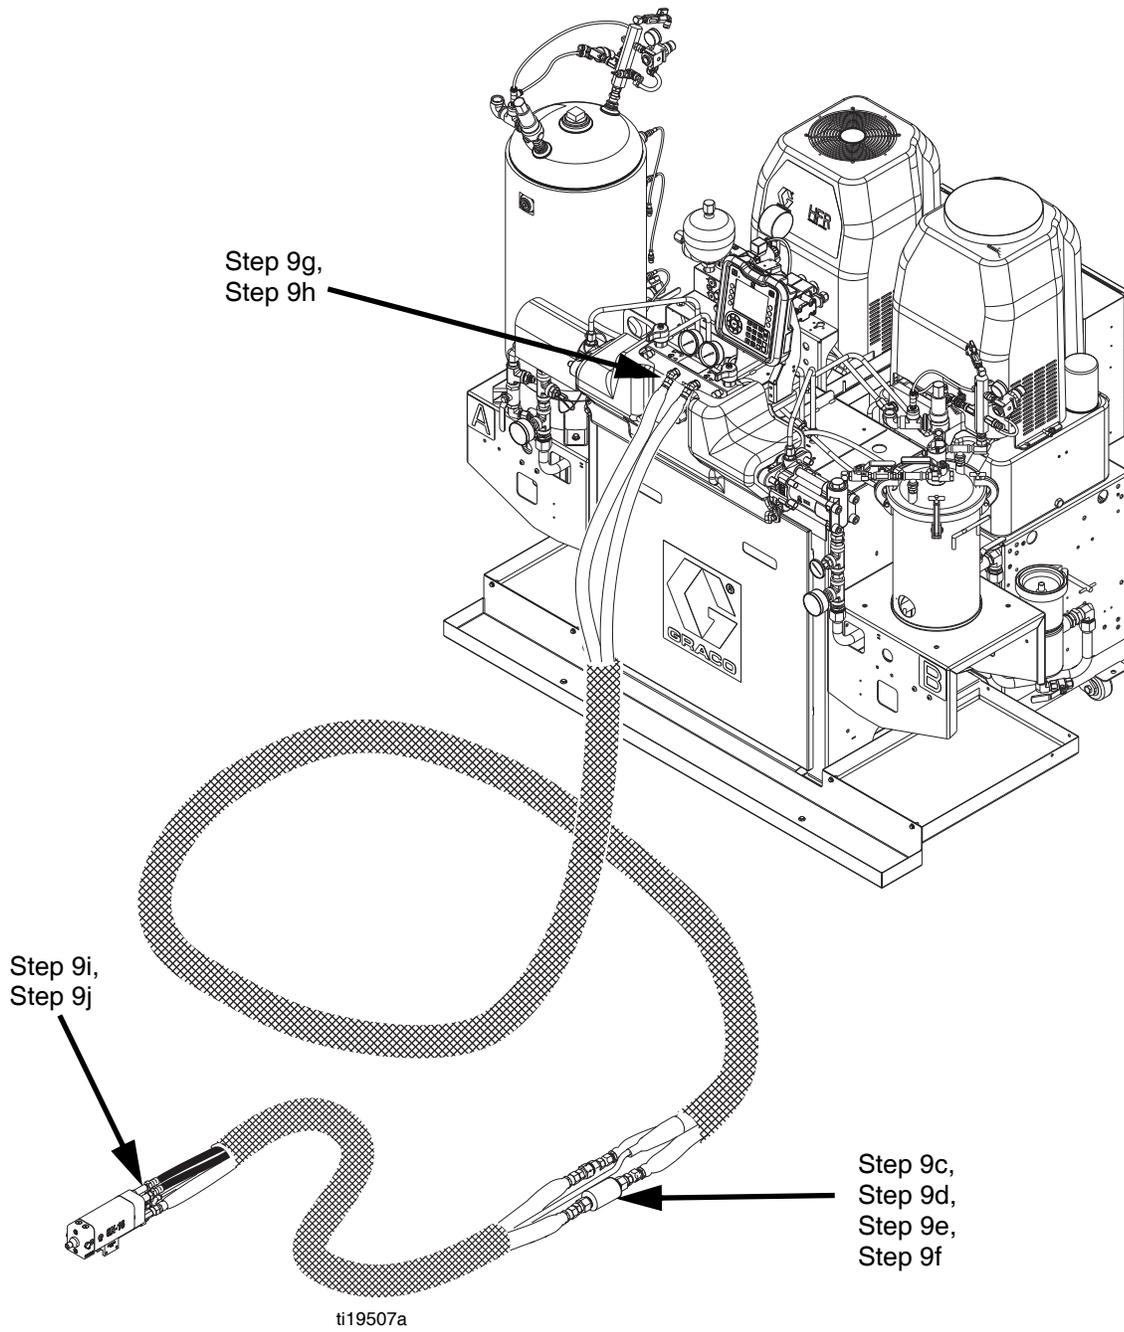
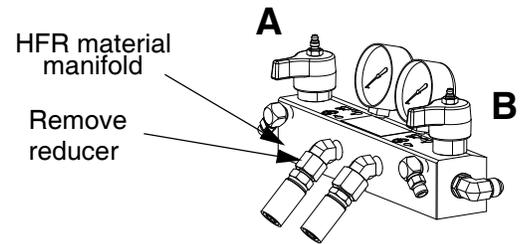

FIG. 15: Material Hose Connections
FIG. 16: Material Manifold
NOTE: Refer to **FIG. 15** on page 32 for visual clarity of the following steps.
- Remove reducer fitting from the A (Red) connection of the HFR fluid manifold. Install FTS in the A (Red) material supply line between main hose and whip hose. Ensure the FTS is facing toward the fluid flow of material after installation. See Heated Hose manual for instructions. Refer to **FIG. 15** and **FIG. 16**.
- Remove reducer fitting from B (Blue) connection of the HFR fluid manifold (Models 24N573, 24N574 only). Install the provided additional spacers near the location of the FTS for the remaining material lines. Refer to **FIG. 15** and **FIG. 16**.
- Assemble the hydraulic hose sections together and place the assembled hose connection near the FTS area. Refer to **FIG. 15**.
- Connect A (Red) and B (Blue) hoses to A (Red) and B (Blue) outlets on HFR fluid manifold (FM). Hoses are color coded: solid red for component A, solid blue for component B.